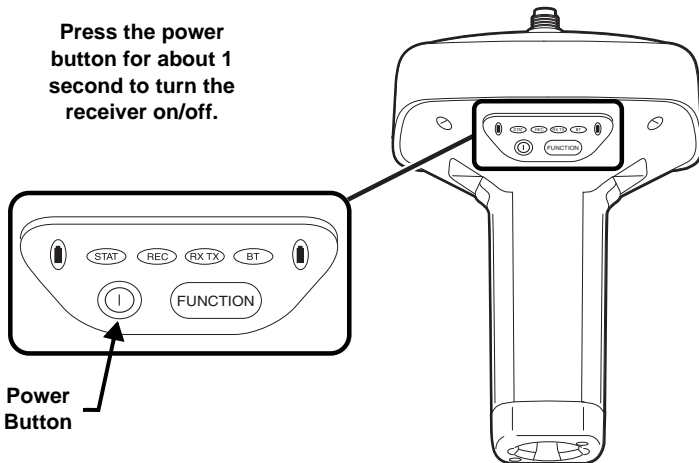

Figure 4-5. Power Button Functions
**To turn the receiver on/off**, press the **Power** button (Figure 4-5).